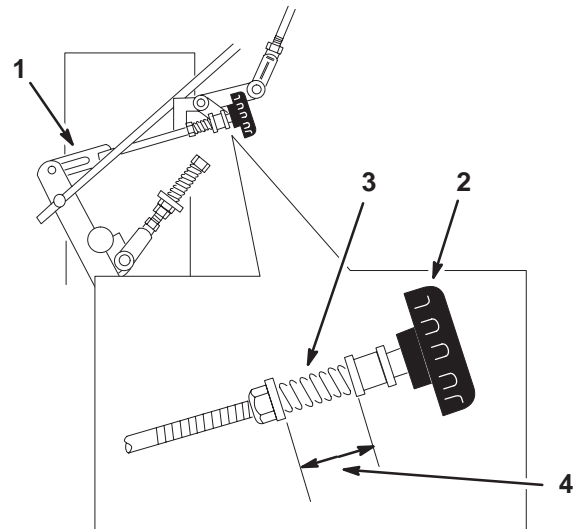

Figure 44
4. Adjust the right side linkage by turning the quick track knob counter-clockwise until the tire begins to rotate forward (Fig. 44).
5. Turn the knob clockwise 1/4 of a turn at a time. Then move the speed control forward and back to neutral. Repeat this until right wheel stops rotating forward (Fig. 44).
6. The spring that keeps tension on the knob should normally not need adjustment. However if adjustment is needed, adjust the length of spring to 1 in. (26 mm) between the washers (Fig. 44).
7. Adjust spring length by turning nut at front of spring (Fig. 44).